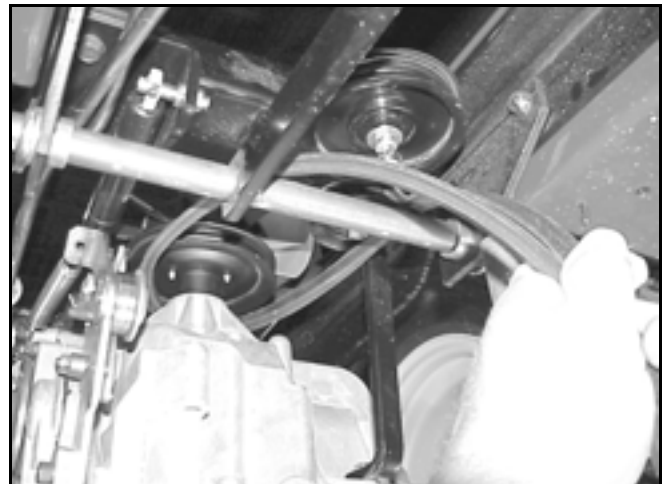

Figure 154
5. Install drive belt around the transaxle pulley, leaving the belt underneath the transaxle pulley (Figure 154).